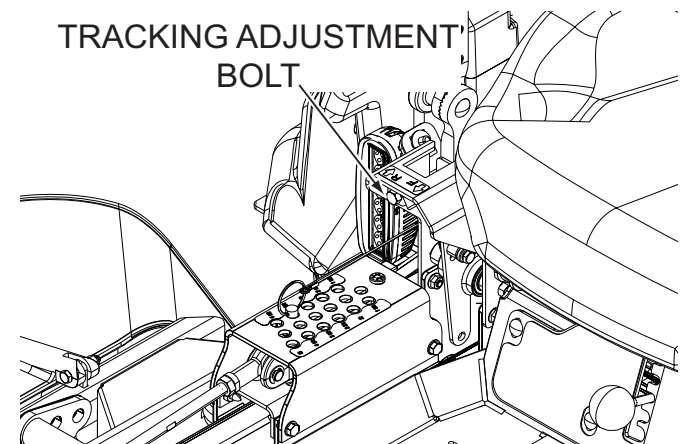

Figure 6-3. Tracking Adjustment
- A. Stop the machine and place the steering control levers in the neutral position. Turn the tracking adjustment bolt for the LH pump inward (clockwise). This will cause the control rod to stroke the LH pump less, slowing down the LH wheel. See Figure 6-3.
- A. Stop the machine and place the steering control levers in the neutral position. Turn the tracking adjustment bolt for the RH pump inward (clockwise). This will cause the control rod to stroke the RH pump less, slowing down the RH wheel. See Figure 6-3.